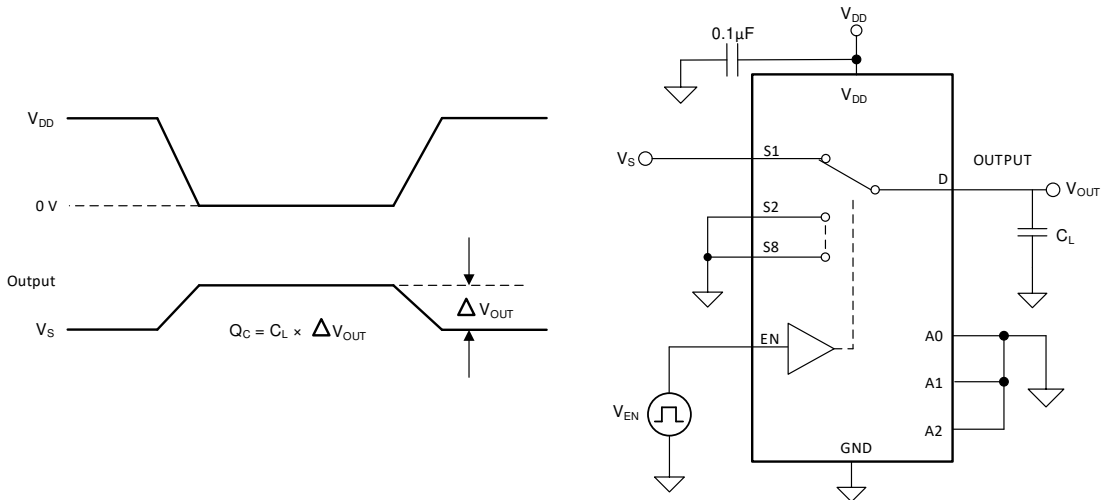

图 7-7. Charge-Injection Measurement Setup
The TMUX1208-Q1 has a transmission-gate topology. Any mismatch in capacitance between the NMOS and PMOS transistors results in a charge injected into the drain or source during the falling or rising edge of the gate signal. The amount of charge injected into the source or drain of the device is known as charge injection, and is denoted by the symbol Q_C . 图 7-7 shows the setup used to measure charge injection from source (Sx) to drain (D).